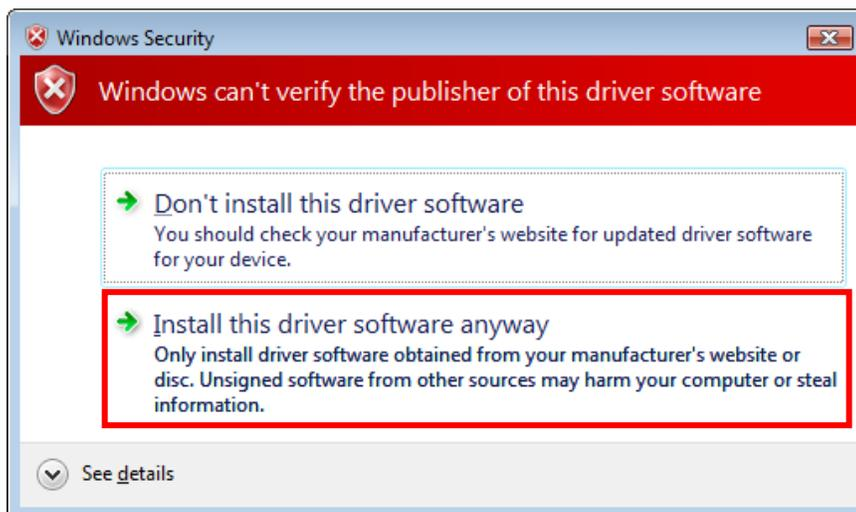

Fig. 3
**\*Note:** Your drivers are digitally signed by Microsoft. However, in the event that a Windows Security warning dialogue box appears as shown in Fig. 3, select **Install this driver software anyway** to continue the driver installation process.